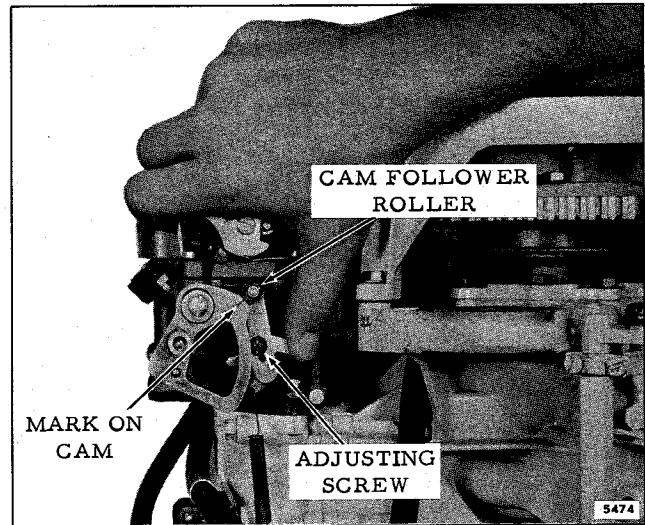

Figure 3-26. Throttle Cam Adjustment
a. Check the position of the throttle arm with respect to the cam follower. Remove carburetor synchronizing rod to gain access to adjusting screw. See Figure 3-26. NOTE: There are two set screws securing the rod, one above the other. Removal of the outer locking screw will allow access to the rod locking screw.